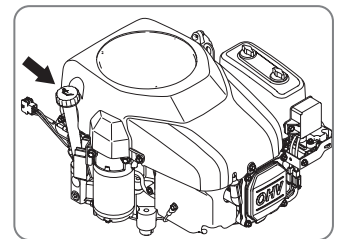

Fig. 64
3. Loosen the dipstick and pull it out (Fig. 64).